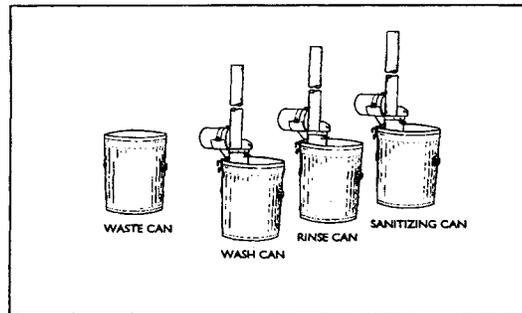

Figure 3-3. Mess kit laundry line
- a. Check to ensure that there is a complete pot and pan wash line for each 80 people in the unit. Also change water as often as necessary for sanitary standards. See Figure 3-3.